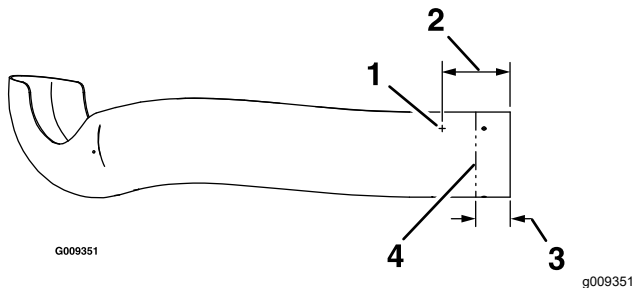

Figure 14
- A. Locate the 3 holes in the upper tube. Measure 16.5 cm (6-1/2 inches) up from the end of the tube and mark the location in all 3 areas (Figure 14).
- B. Drill 3 holes (4.8 mm or 3/16 inch) as shown in Figure 14.
- C. Measure at 3 locations—76 to 89 mm (3 to 3-1/2 inches) from the end of the tube, create the marks, and apply masking tape around the tube as a guide (Figure 14).